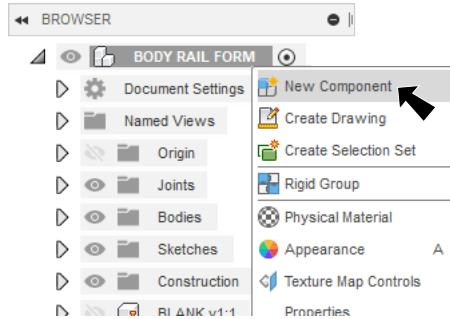

Fig. 1
Step 3. Right click the top node the **BODY RAIL FORM** Assembly  in the Browser and select **New Component**, Fig. 1.